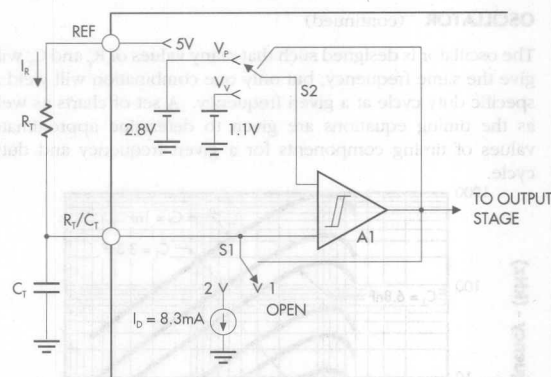

FIGURE 25 — SIMPLIFIED SCHEMATIC OF OSCILLATOR SECTION
The oscillator circuit is designed such that discharge current and valley voltage are trimmed independently. This results in more accurate initial oscillator frequency and maximum output duty cycle, especially important in LX1552/53 applications. The oscillator is programmed by the values selected for the timing components ( $R_T$  and  $C_T$ ). A simplified schematic of the oscillator is shown in Figure 25. The operation is as follows: Capacitor ( $C_T$ ) is charged from the 5V reference thru resistor ( $R_T$ ) to a peak voltage of 2.7V nominally. Once the voltage reaches this threshold, comparator (A1) changes state, causing (S1) to switch to position (2) and (S2) to ( $V_V$ ) position. This will allow the capacitor to discharge with a current equal to the difference between a constant discharge current ( $I_D$ ) and current through charging resistor ( $I_R$ ), until the voltage drops down to 1V nominally and the comparator changes state again, repeating the cycle. Oscillator charge time results in the output to be in a high state (on time) and discharge time sets it to a low state (off time). Since the oscillator period is the sum of the charge and discharge time, any variations in either of them will ultimately affect stability of the output frequency and the maximum duty cycle. In fact, this